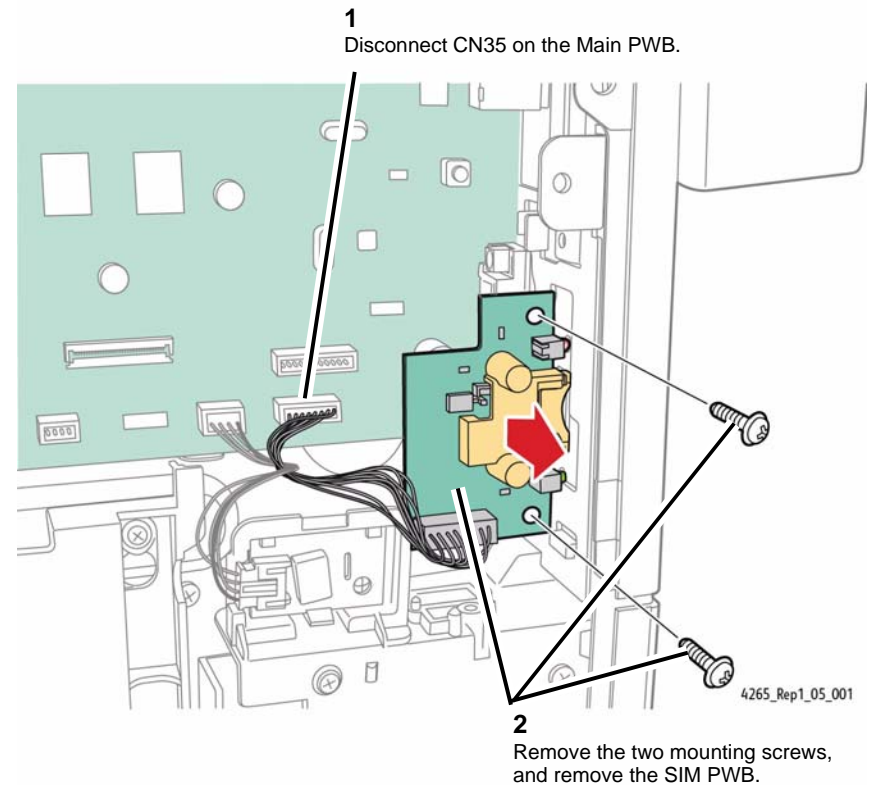

Figure 1 Removing the SIM PWB (4265)
6. Remove the SIM PWB (Figure 1).